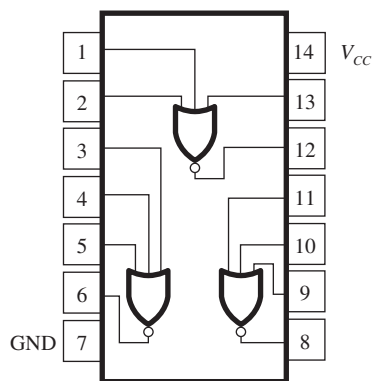

Figure P48
- T** 48. The data table above was built by putting a logic probe on every pin of the 7427 NOR IC shown in Figure P48 while it was connected in a digital circuit. Which gates, if any, are bad, and why?